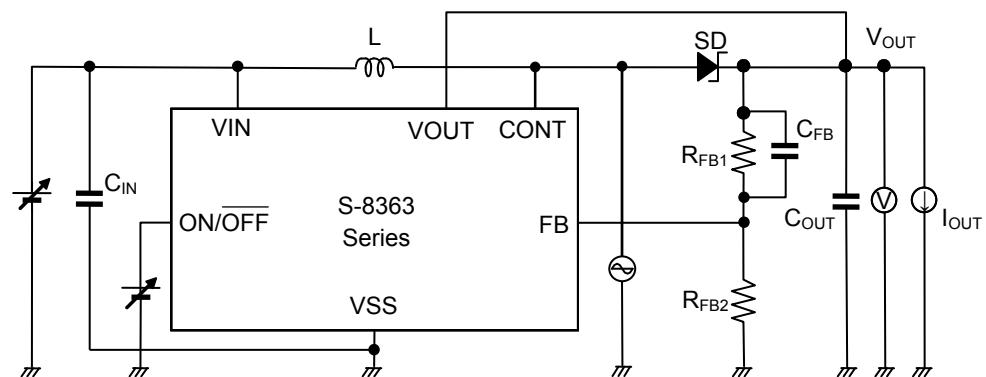

Figure 6
- *1. This is the guaranteed value measured with external parts shown in "Table 6 External Parts List" and with test circuits shown in Figure 6. The operating start voltage varies largely depending on diode's forward voltage. Perform sufficient evaluation with actual application.